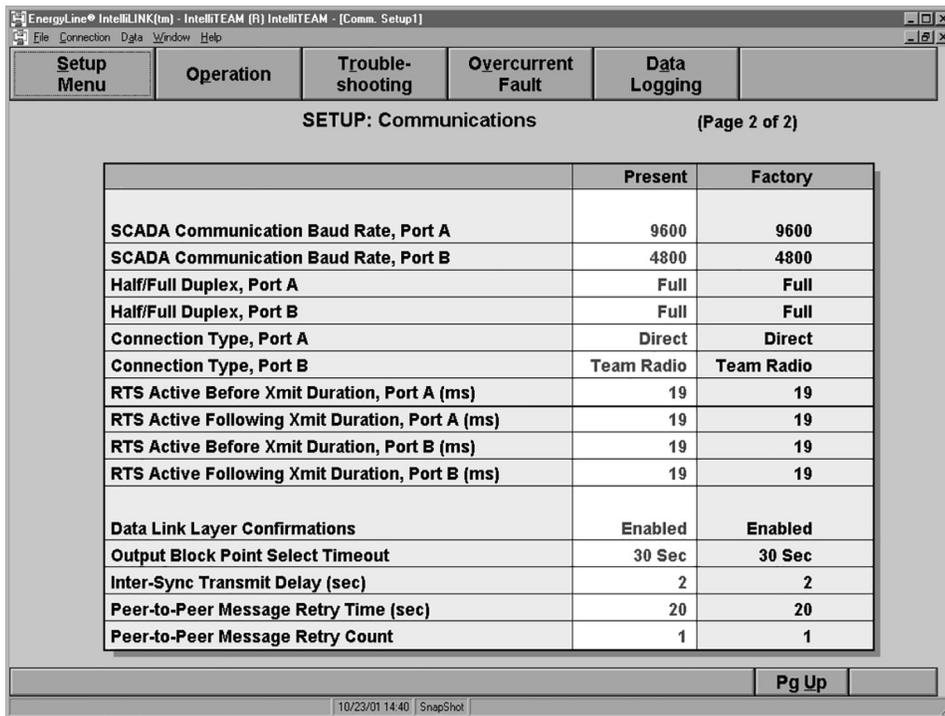

Figure 12. Page 2 of the *Setup>Communications* screen.
**STEP 8.** At Page 1 of the *Setup>Communications* screen, click on the **PgDn** button to display Page 2. See Figure 12.